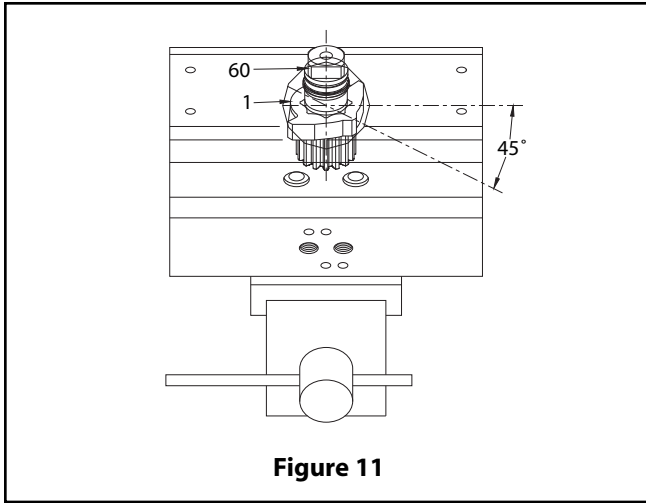

Figure 11
D. Ensure that the octi-cam (1) is in the correct position as shown by (Figure 11).